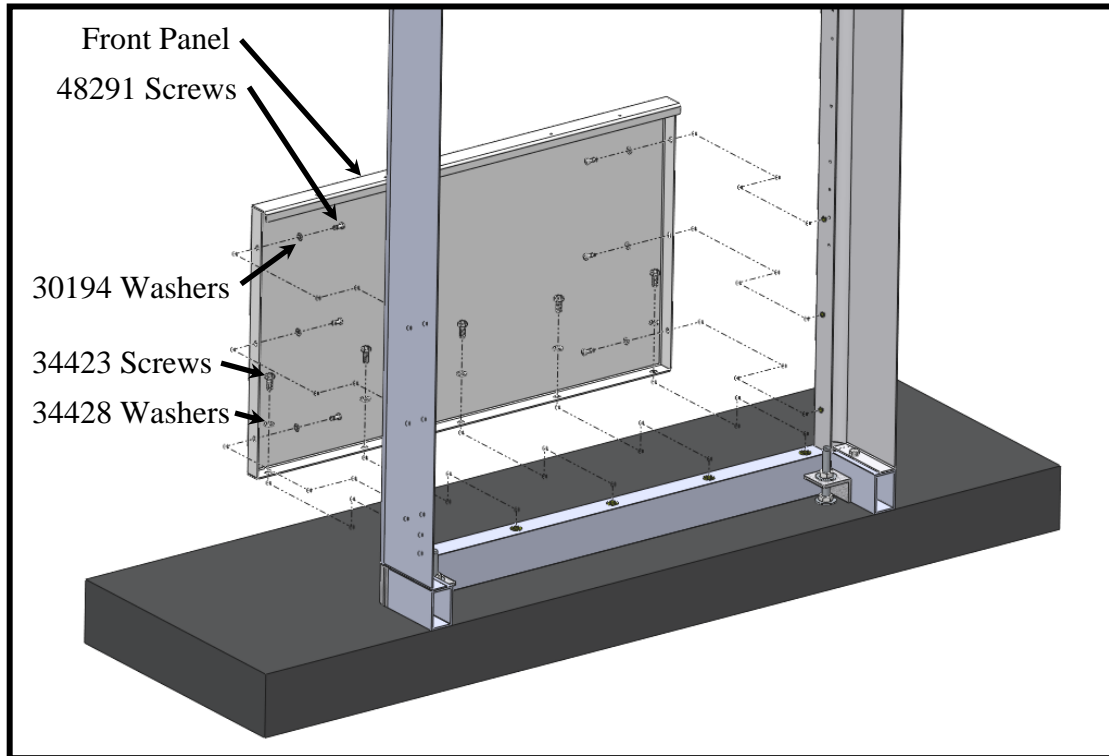

Figure 15 – Installation of front panel
- a) Install the 34428 lock washers and 34423 screws first. Do not tighten screws. Next install 30194 washers and 48291 screws. Align front panel to left and right side panels and tighten all screws. See Figures 15